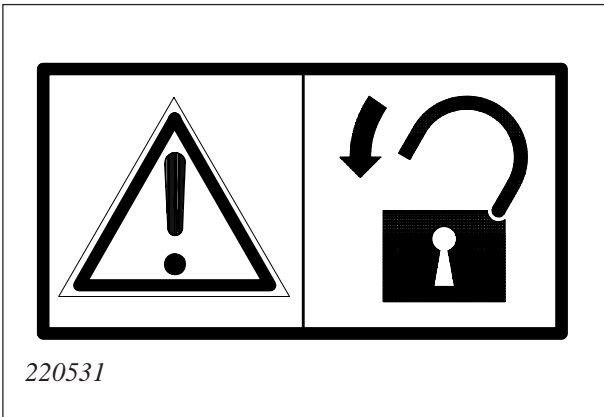

Fig. 22
**Warning sign 220531 (Fig. 22).** Lock the track markers prior to transport or parking with raised markers.